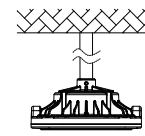
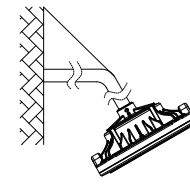

Figure 9
Figure 10
2. Fix the fixture in the required position (figure 9, figure 10, figure 11).